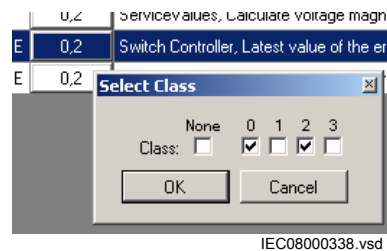

Figure 122: CMT: Select Class window
3. Make the selection according to the definitions in the project and click *OK* to close the window and get the new configuration, see Figure 122.